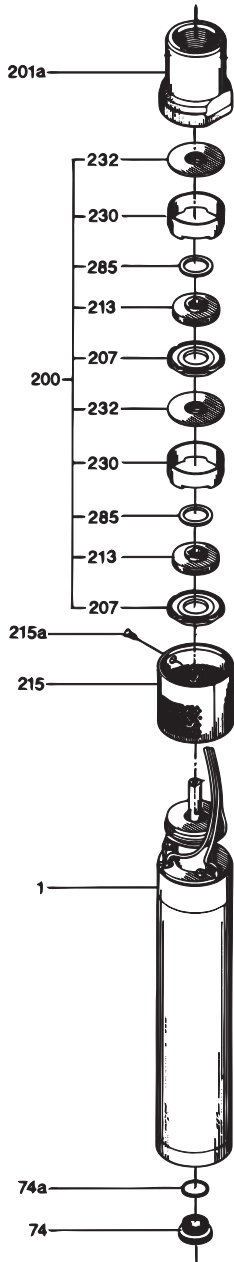

Fig. 16 Pump components
Procedure (see fig. 16):
7. Push the pump housing (pos. 201a) over the wear parts including impellers (pos. 200) and screw it on the suction interconnector on the motor (pos. 1). See fig. 16.
9. Push the strainer (pos. 215) over the pump housing, and press it against the motor. Turn the strainer to the right so that the hole of the strainer and that of the pump housing are in the same position.
10. Fit and tighten the screw (pos. 215a).